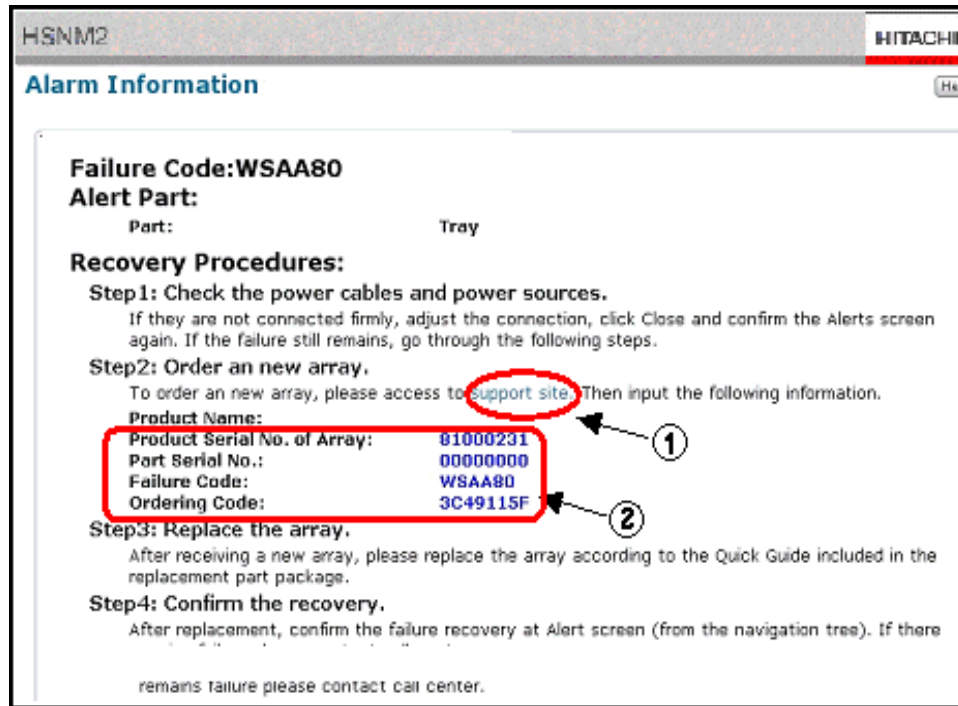

Figure 6-5: Example of an Alarm Information Window
7. If an entry appears in the failure parts list window, click **Show Details** in the lower right corner of the screen for detailed information (see Figure 6-5). To remove the information, click **Close**.